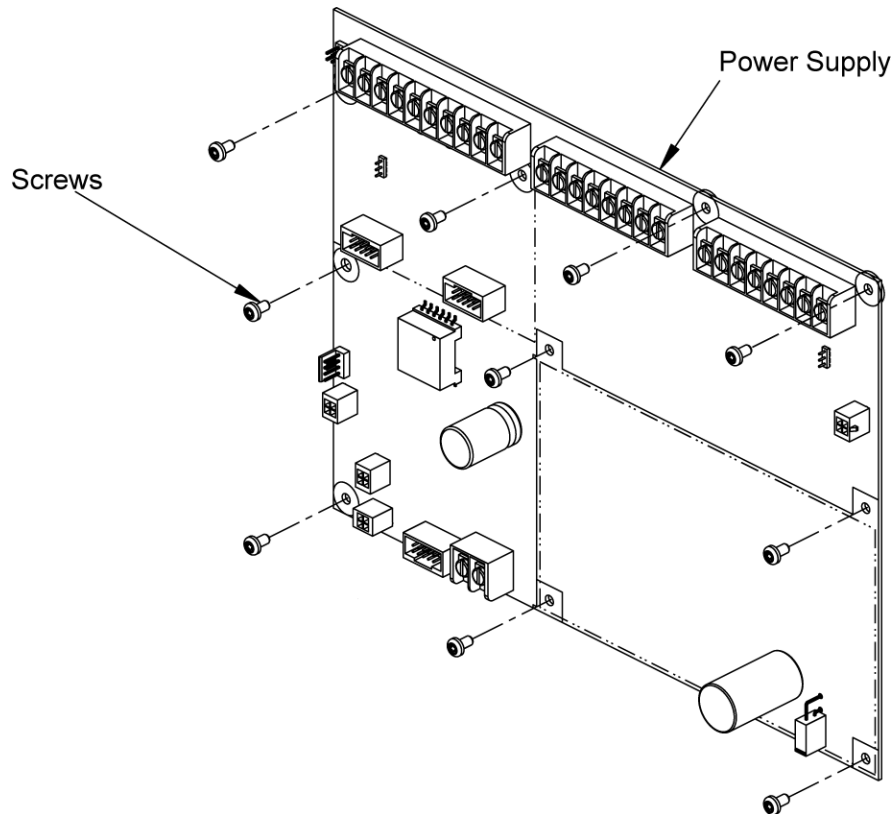

Fig 2: Screws location
- To remove the electronics, unscrew the ten screws. Remove the power supply and store it in a safe, clean, and dry location until the panel installation is completed, see Figure 2: Screws location on page 6.